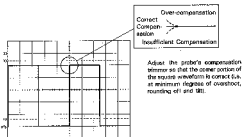

Figure 3. Probe Compensation Adjustment
4. Plug the probes (PC-35) into the INPUT jacks of each channel. Set the AC-GND-DC control at DC and the VERT MODE control at CH1. Plug the CH1 (Y-axis) probe to the CAL terminal and set the VOLTS/DIV control at 20mV/div. Adjust the $\updownarrow$ POSITION control so that all of the waveform can be seen. With the waveform in this position, carry out probe compensation adjustment using Figure 3 and the probe Instruction Manual.